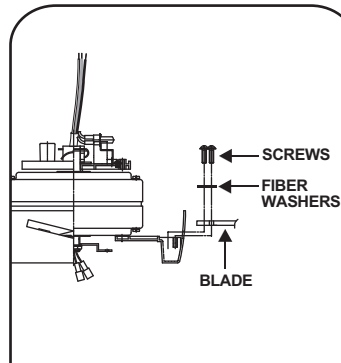

Fig. 6
Step 2. (Fig. 6) Insert the blade through the access window from the blade holder. Align holes from the blade and motor and secure with 3 screws and fiber washers. Repeat process with the other blades.